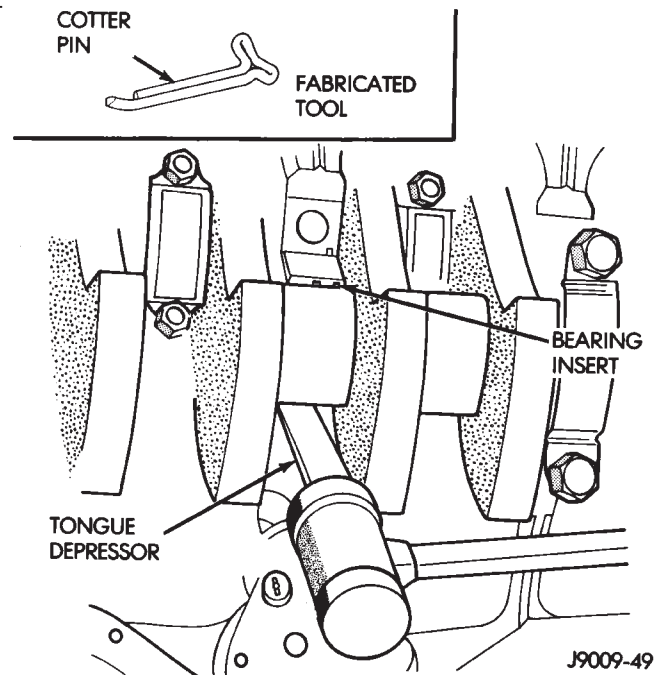

Fig. 2 Removing Upper Inserts
- (6) Remove the lower insert from the bearing cap.
- (7) Remove the upper insert by **LOOSENING (DO NOT REMOVE)** all of the other bearing caps. Now insert a small cotter pin tool in the crankshaft journal oil hole. Bend the cotter pin as illustrated to fabricate the tool (Fig. 2). With the cotter pin tool in place, rotate the crankshaft so that the upper bearing insert will rotate in the direction of its locking tab. Because there is no hole in the No.3 main journal, use a tongue depressor or similar soft-faced tool to remove the bearing insert (Fig. 2). After moving the insert approximately 25 mm (1 inch), it can be removed by applying pressure under the tab.
- (8) Using the same procedure described above, remove the remaining bearing inserts one at a time for inspection.